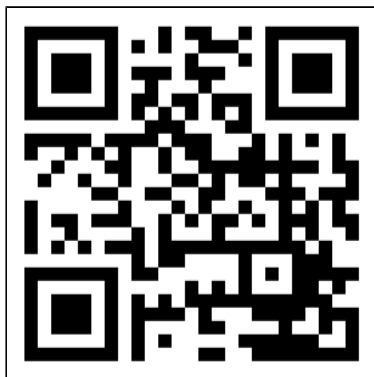

Figure 30.
1. Open the Eurom Smart App manual with the QR code (Figure 30) or go to www.eurom.nl/nl/manuals.